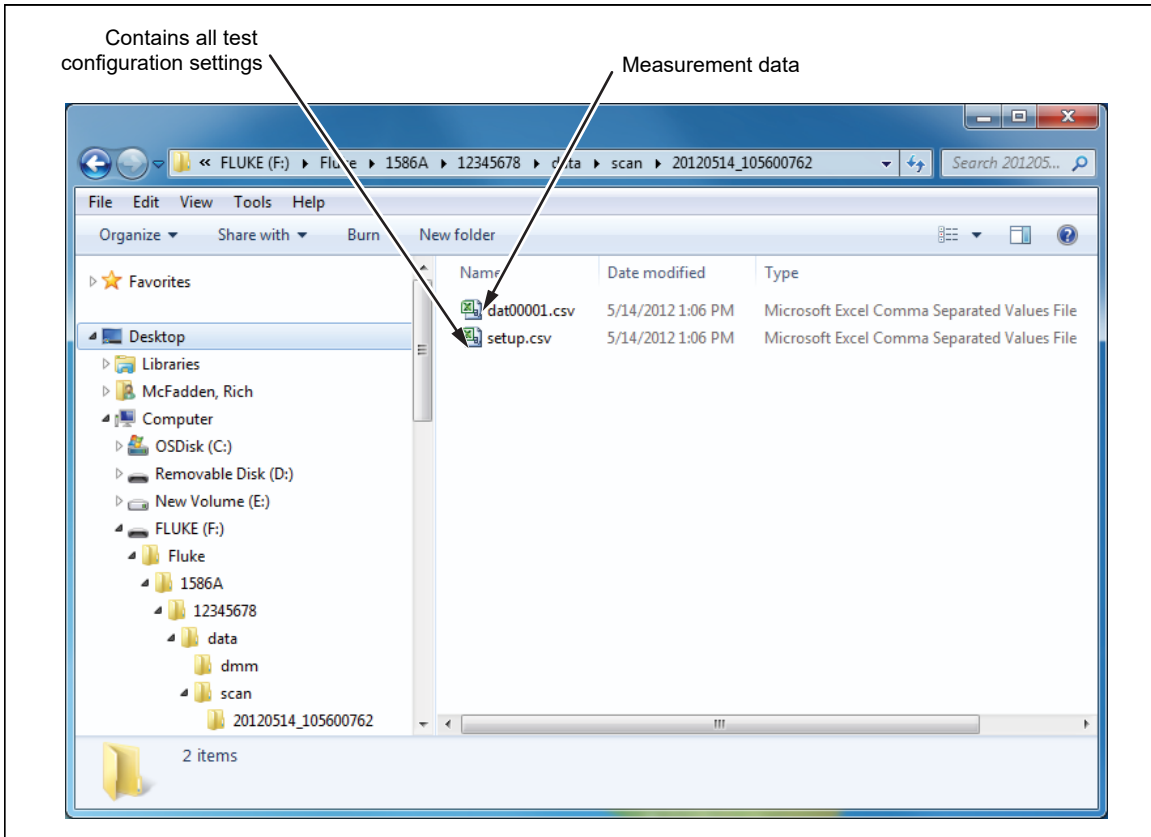

Figure 4-9. Setup.csv and Dat00001.csv Files
5. Navigate to the data folder as follows (see Figure 4-9 for an example of the folder structure):
- Choose a file to open then double-click on the file. The time-stamped data folder contains two comma-separated values (.csv) files: **setup.csv** and **dat00001.csv**. The setup.csv file contains all the test parameters that were configured when the data was recorded. The dat00001.csv contains all of the recorded measurement data. See Figure 4-9.